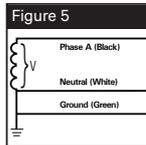

Figure 5
- 120N = 120V Single Phase (Fig 5)
- 127N = 127V Single Phase (Fig 5)
- 240N = 240V Single Phase (Fig 5) - Not split phase
- 277N = 277V Single Phase (Fig 5)
- 300N = 300V Single Phase (Fig 5)
- 480N = 480V Single Phase (1 Hot, 1 Neu, 1 Grnd) (Fig 5)